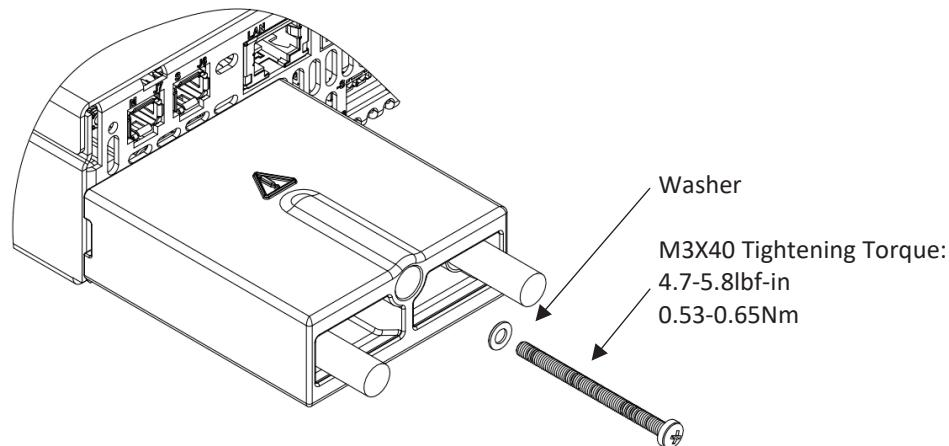

Figure 4-47: Fixing Bus Bars Cover to the Rear Panel
4. Fix the Bus bar cover to the rear panel of the power supply using M3X40 Sems screw from the accessories kit, as shown in Figure 4-47.